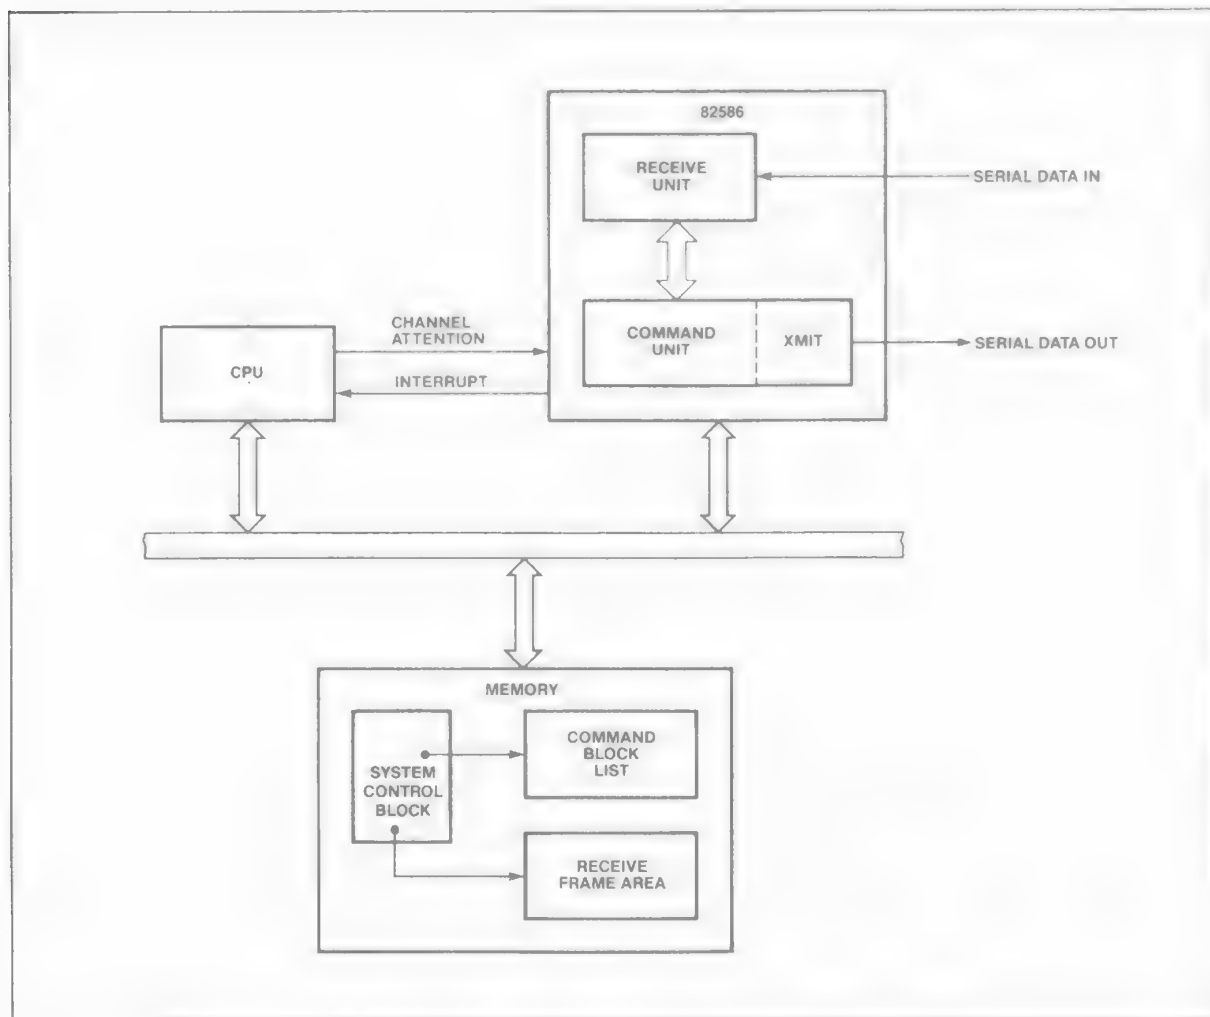

Figure 3. System Overview
From the user's point of view, the 82586 consists of two independent, though communicating units: the Command Unit (CU) and the Receive Unit (RU) as shown in Figure 3. The CU executes commands given by the host CPU and manages frame transmissions. The RU handles all activities related to frame reception such as buffer management, frame and address recognition, and CRC checking. The two units are controlled and monitored by the host CPU via a shared memory structure called the System Control Block (SCB). All logical communication between the CPU and 82586 takes place through the SCB. The two other memory structures used by the 82586 are the Command Block List (CBL) and Receive Frame Area (RFA). These are used to hold